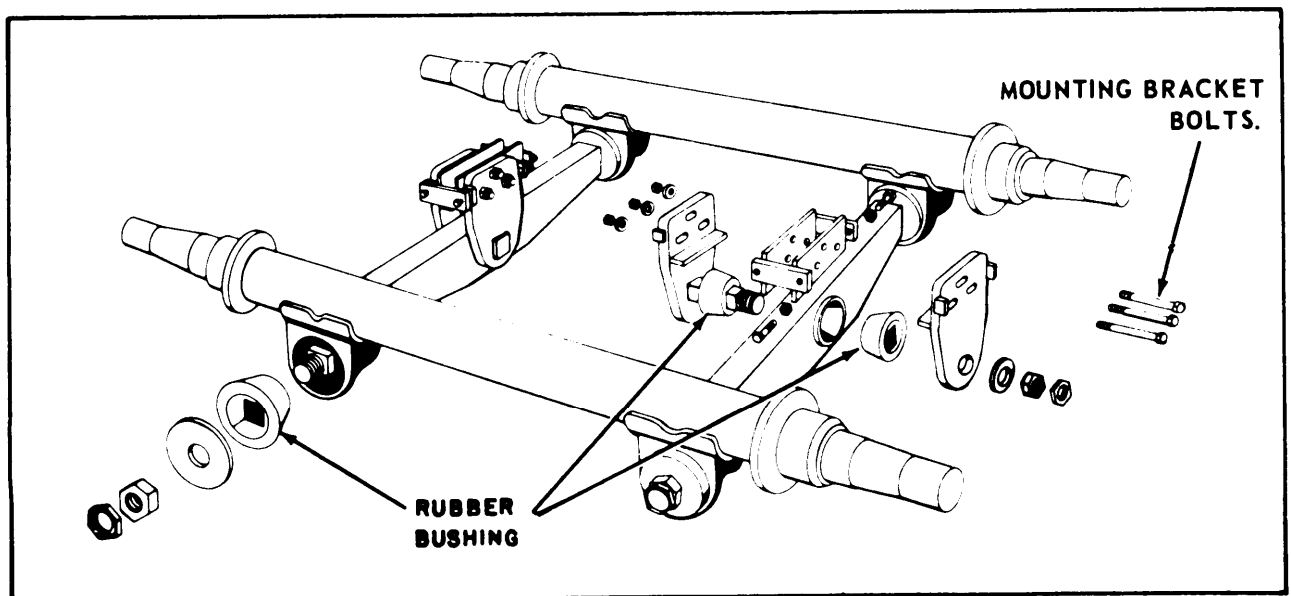

FIGURE 10-8. TANDEM RUBBER BUSHING
c. Remove three mounting bracket bolts and retainer nuts on one side of walking beam only (see figure 10-8).